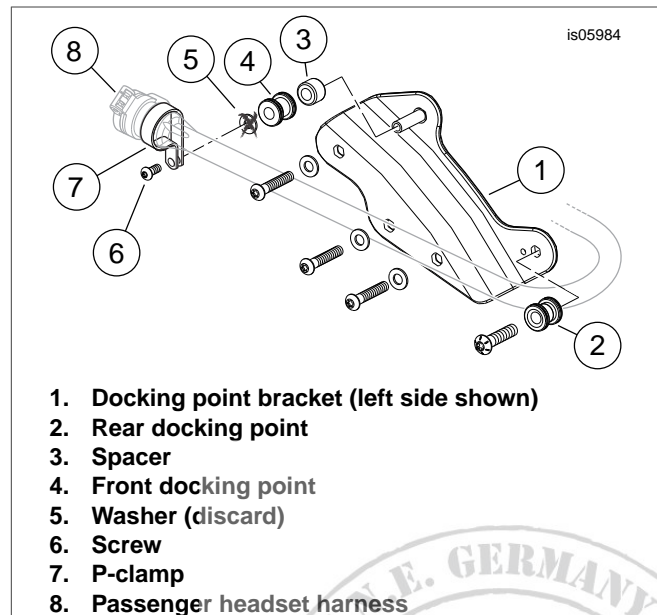

Figure 2. Communication Port Installation
- b. See Figure 2. Install the docking point brackets (1) to the motorcycle.
- c. Install the forward and rear docking points to the right-side bracket. Install the **rear** docking point (2) to the left-side bracket.
- d. Install the spacer (3) and front docking point (4) onto the pin.